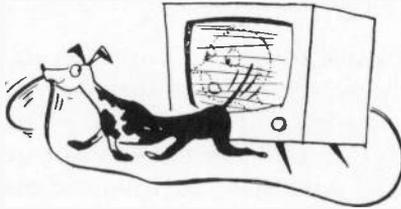

Fig. 103. TV sets have a number of natural enemies, including dogs and children.
1. If there is a pup around (Fig. 103) make sure it does not chew the lead-in or pull the line cord from the wall socket.